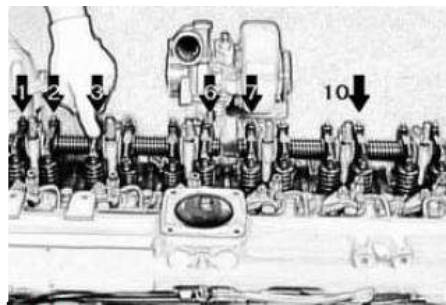

Fig 5-22 Valve Clearances Adjustment for Six-cylinder Engine
2.11 For six -cylinder engine' counted from front side of the engine, adjust no.1, 2, 3, 6, 7, 10 six valves (see Fig 5-22).